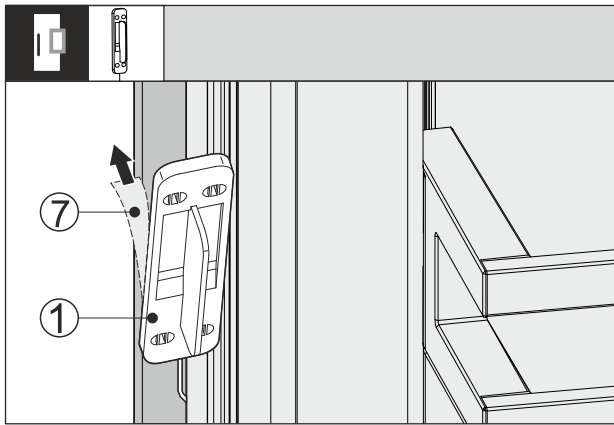

Fig. 65
- ▶ Pull off the protective film Fig. 65 (7) on the back of the knocking sensor Fig. 65 (1).